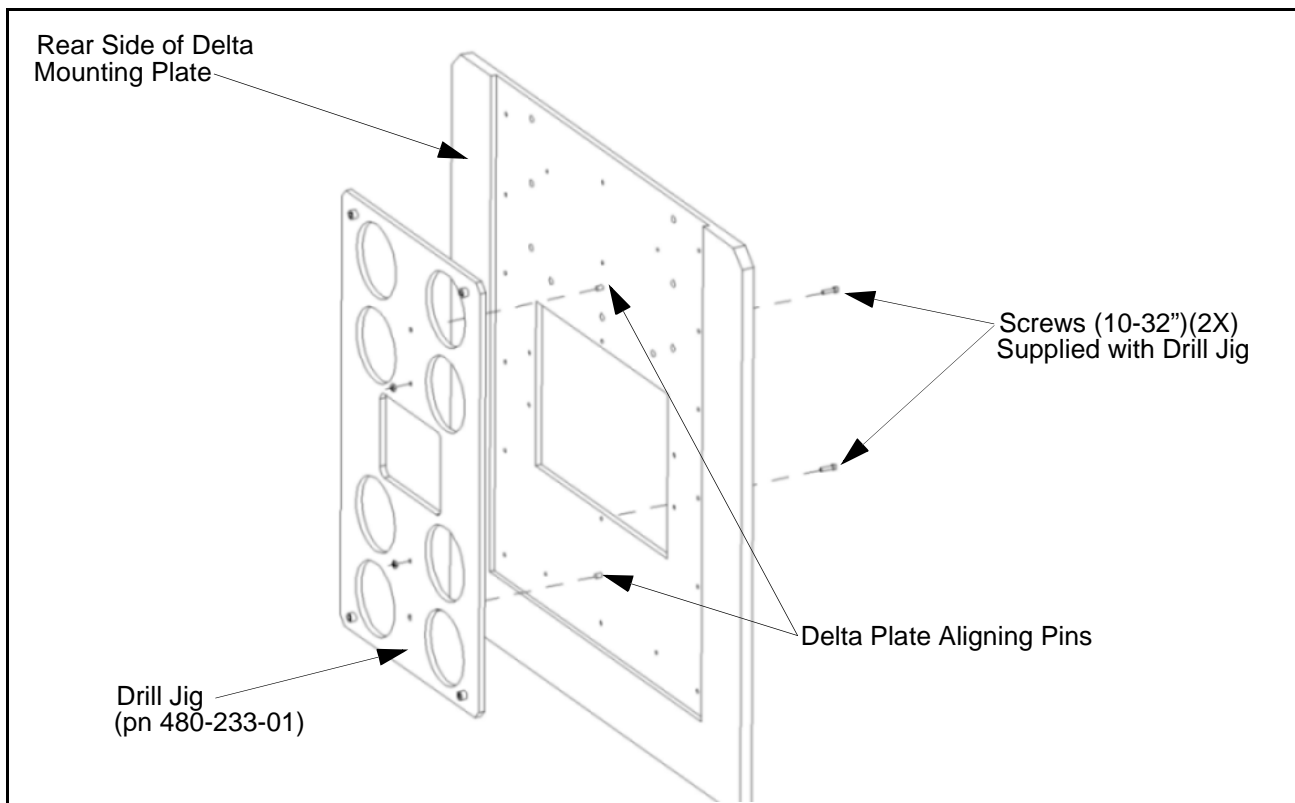

Figure 3 Drill Jig Alignment
- 2) Orient the drill jig with the flat side of the drill jig facing the rear side of the mounting plate. The hole and slot in the jig align with pins in the mounting plate. See Figure 3.
- 3) Secure the drill jig to the mounting plate by attaching the two 10-32" screws and nuts in the locations shown in Figure 3.